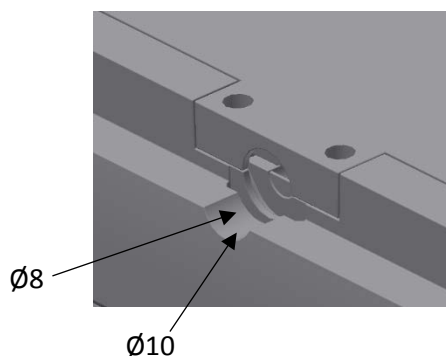
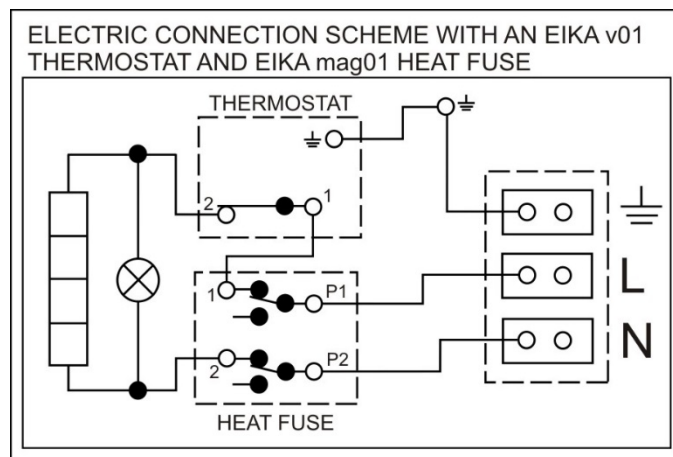

Figure 8
Figure 9
Perform the connection according to the scheme. Factory connection must not be changed! (Figure 9). In the electric wiring casing remove the partition corresponding with the input wire diameter of $\phi 8$ or $\phi 10$ (Figure 8). The degree of protection of electric parts of the heater is IP 44. Power input of electric element is 2000W (OKHE ONE 50-120), 1100W (OKHE ONE 30).
- The electric wiring scheme is attached to the water heater on the side of the electric installation guard (Figure 9)